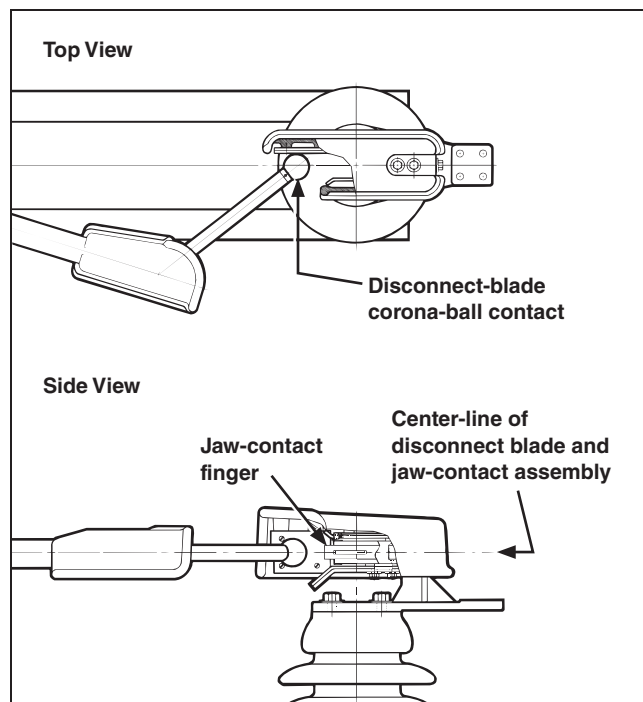

Figure 22. Checking the alignment of the disconnect blade and jaw contact.
STEP 3. Open the disconnect blade on each pole-unit. When the disconnect-blade corona-ball contact is clear of its jaw contact fingers as indicated in Figure 22 (top view), make sure the blade centerline has not shifted up or down by more than 1/4-inch (6 mm), as measured to the centerline of the jaw contact. Figure 22 (side view).